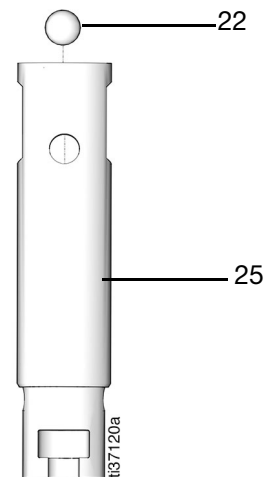

FIG. 56
10. Place the ball (22) back into the pump piston (25) (FIG. 56).